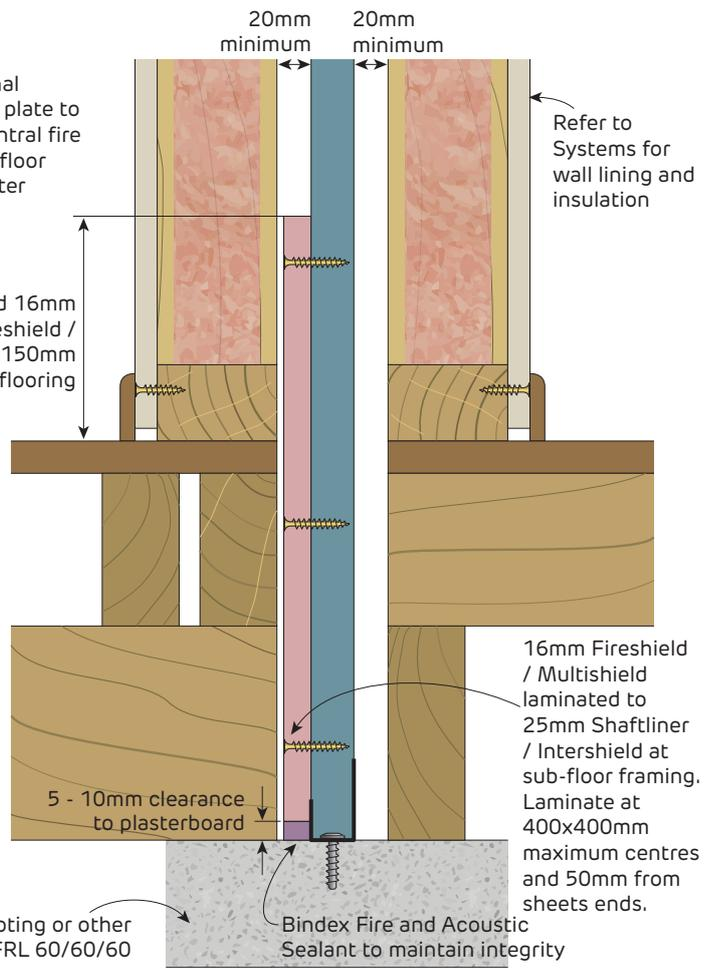

FIGURE 25 Suspended Ground Floor
- > At floor joists to 150mm above floor level [Figures 25, 30 - 34]